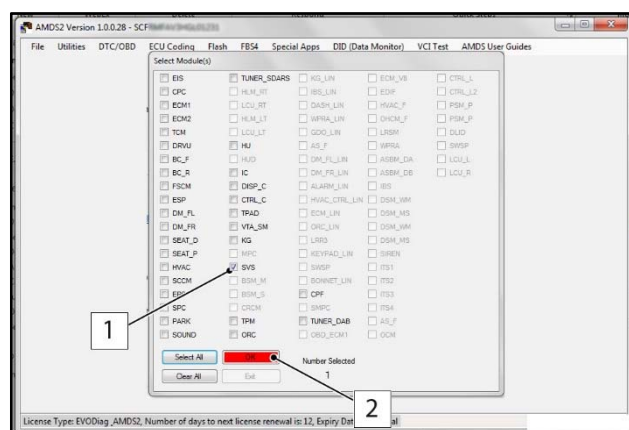

Figure 2
4. From the Special Apps menu, select "SVS" (refer to Figure 2) (1) and select OK (2)